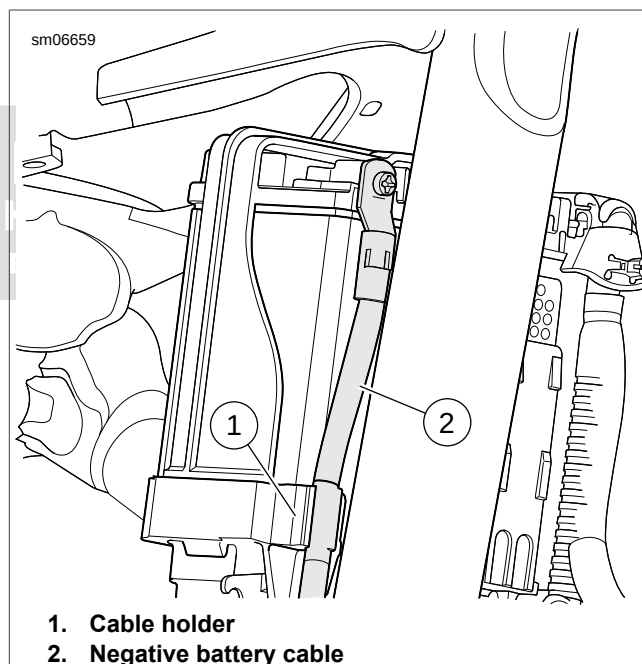

Figure 1-70. Negative (-) Battery Cable Holder
3. See Figure 1-70. Pull end of negative (-) cable (2) forward gently to free it from cable holder (1).
6. Hook top of battery strap (4) to battery tray mount on top of battery. Install strap screw (5). Tighten to 36-60 in-lbs (4.1-6.8 Nm).
- 8. Hook main fuse holder (1) to top pin on battery strap and slide forward until it snaps into place.
- 9. Hook data link connector (6) to bottom pin on battery strap and slide forward until it snaps into place.
- 10. See Figure 1-70. Press negative (-) battery cable (2) into cable holder (1).